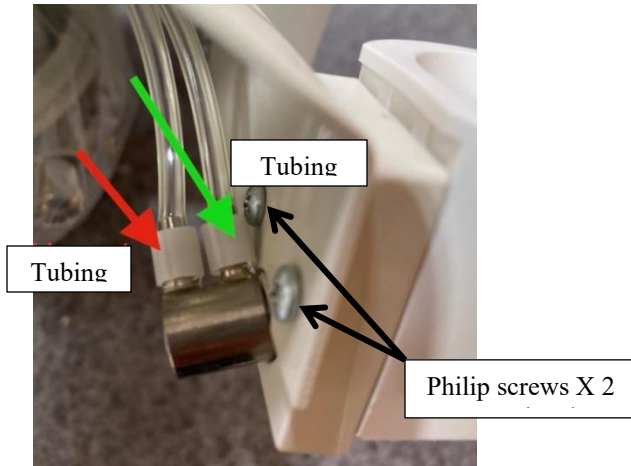

Figure 1: pilot valve and two Philip screws of the holder
2. Remove the two Phillip screws from behind the hand piece holder on the dental machine (**Figure 1**).
3. Once the holder is removed, take the tubing's off one at a time from the metal valve by sliding back the white plastic sleeves (**Figure 1**). Once the tubing is off, take that tubing and slide on the supplied white plastic sleeve. Then put that tubing on the new valve at the same spot as the old valve followed by pushing the white plastic sleeve on.